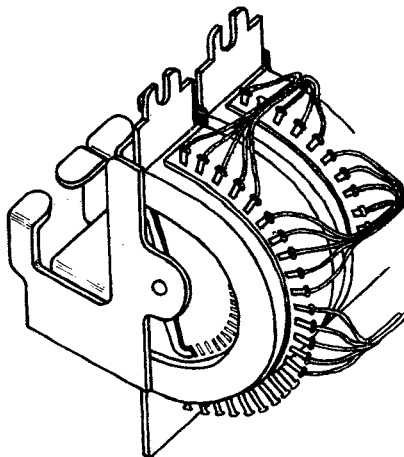

FIG. 10. UNISELECTOR MULTIPLE WIRING.
2.12 Wiring of Uniselectors Multiples. This should be done as shown in Fig. 10.